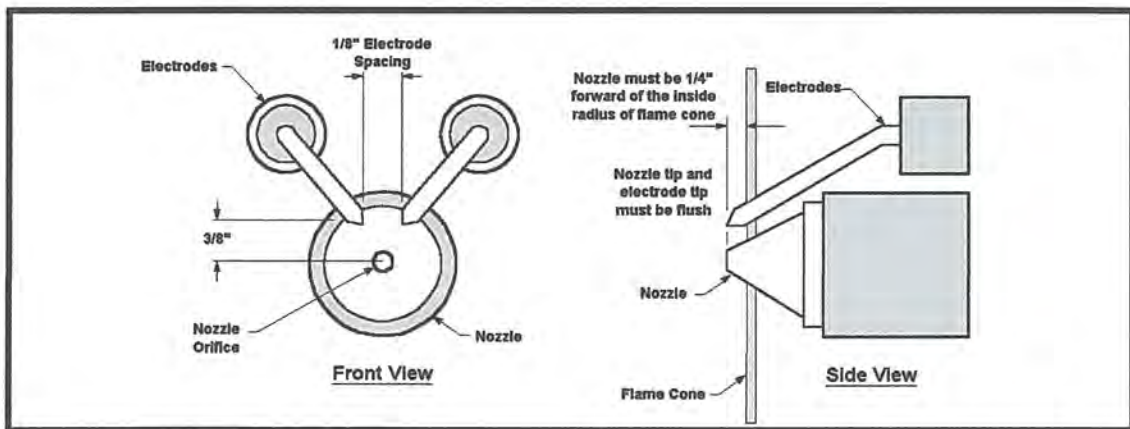

Figure 11 – Electrode Adjustment Detail
--- Inspect electrode adjustment. (figure 11). Due to erosion, adjustment may change.
Tip of nozzle must be  $\frac{1}{4}$ " ahead of inside radius of end-cone. If nozzle is behind inside radius of end-cone, coking will occur and end cone can become clogged. (figure 11). **IMPORTANT NOTE:** be sure nozzle is centered, if nozzle is higher than center, press nozzle down to bottom out pre-heater stand.